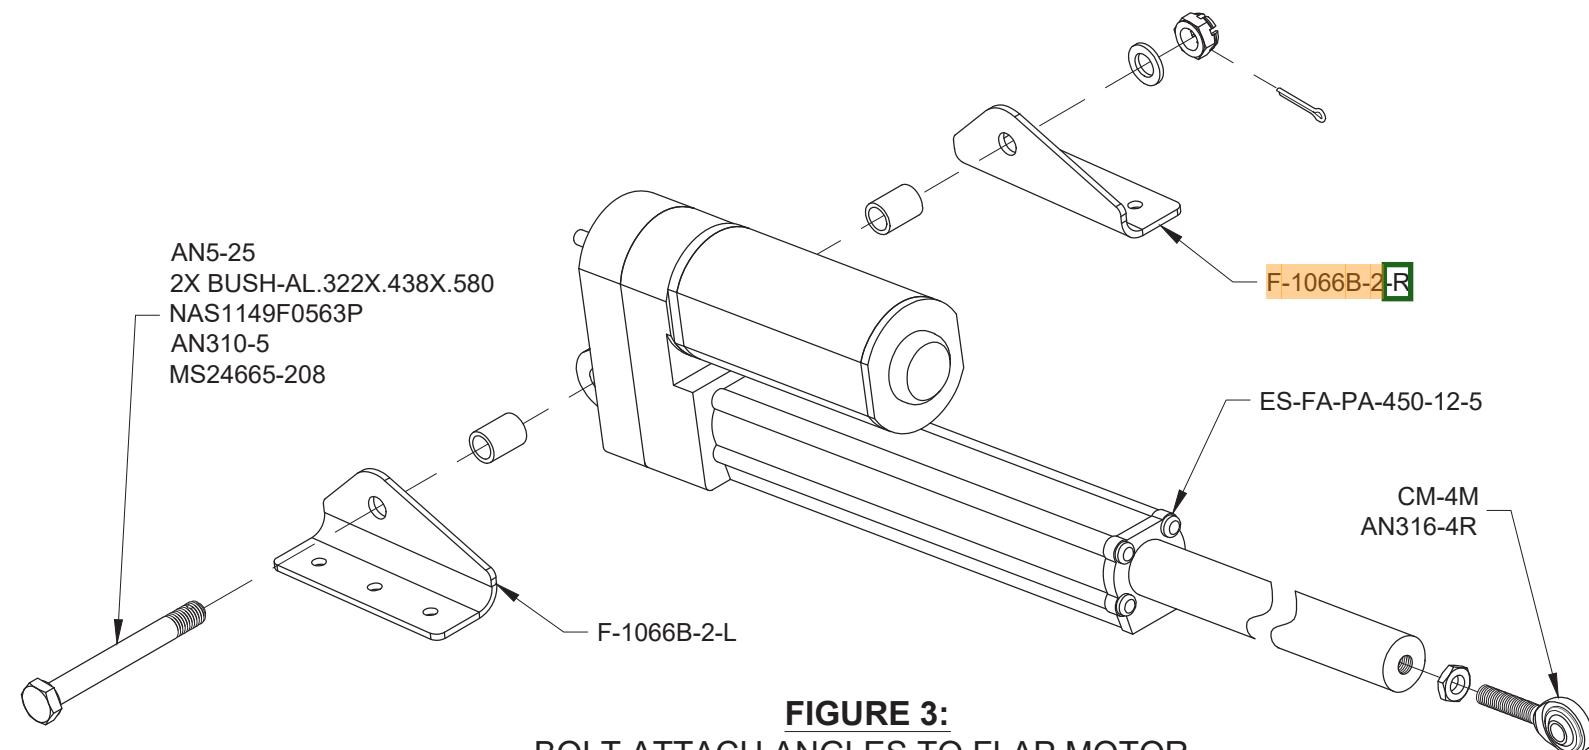

FIGURE 3:
Step 5: Assemble the ES-FA-PA-450-12-5 Flap Motor, **F-1066B-2-L** and **F-1066B-2-R** using the hardware and bushings called out in Figure 3. Tighten the castle nut just enough to remove end play but not enough to add excessive friction. The cotter pin will be installed later.
Step 3: Check for excessive friction and/or play. When satisfied install the cotter pin from Page 40-6, Figure 3.